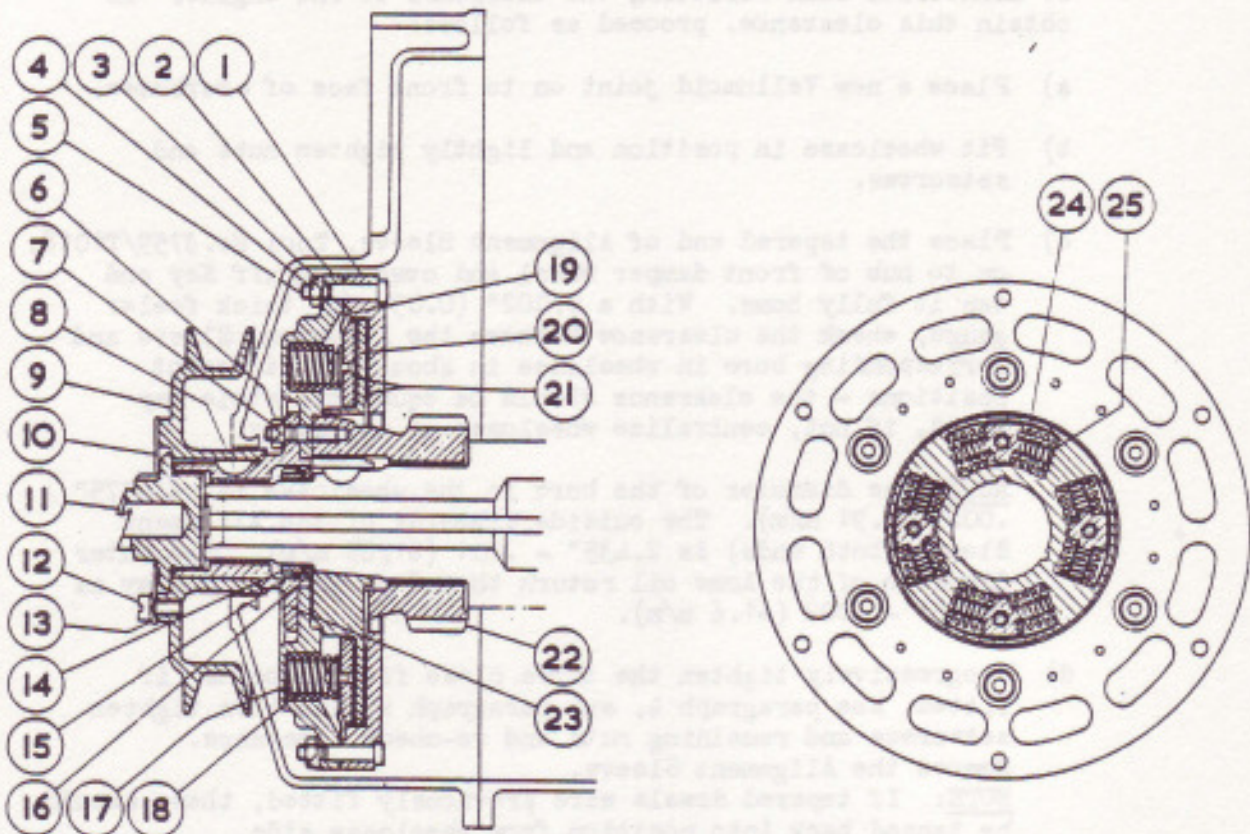
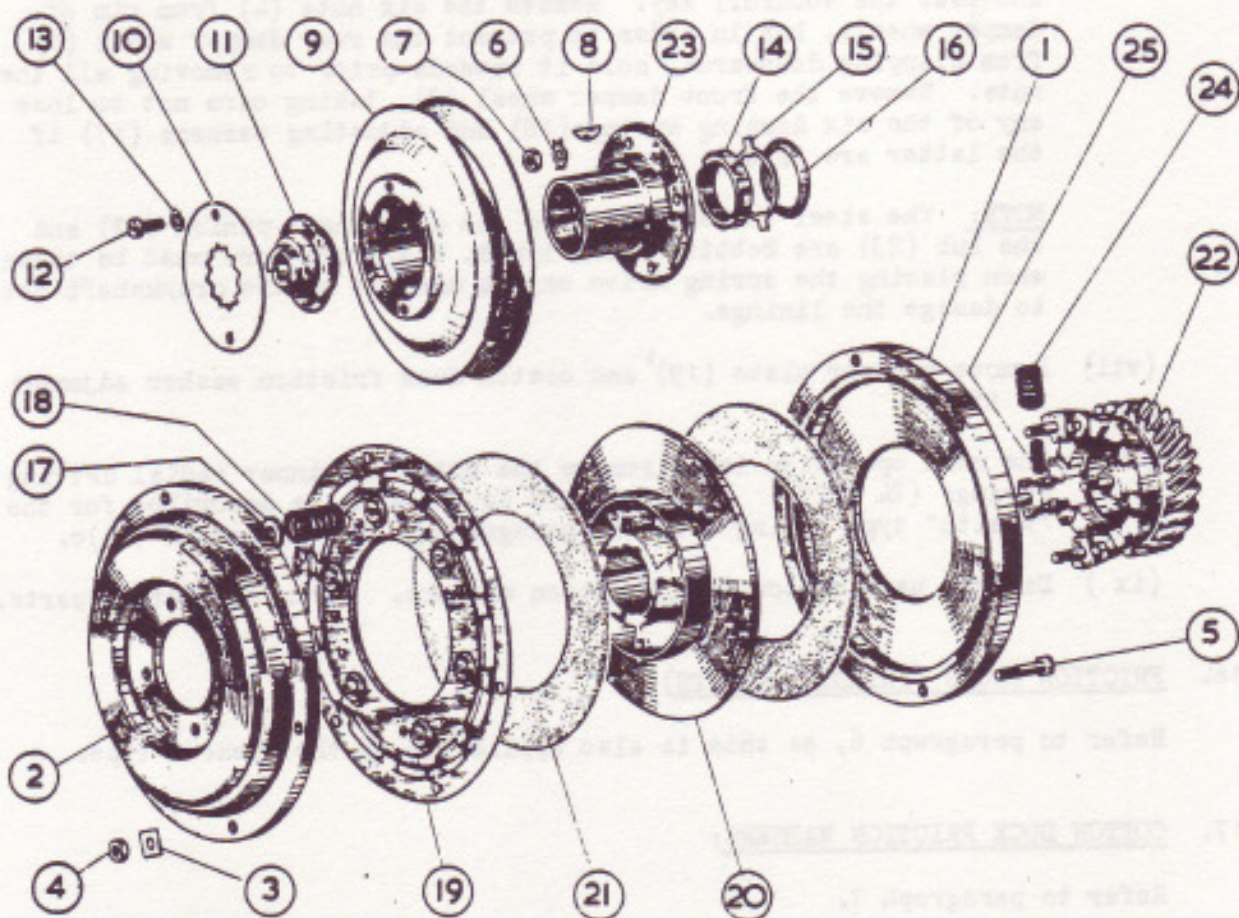

FIG. 28. SECTION - SPRING DRIVE ("BENCH" TYPE).
FIG. 29. ENLARGED VIEW - SPRING DRIVE ("BENCH" TYPE).
For the description, refer to paragraph 1. It will be observed upon reference to Fig. 28, that in order to remove the serrated nut(14) retaining the spring drive to the crankshaft, it is not necessary to first remove the front damper wheel (2) as in the case of the "Wraith" type. The serrated nut is exposed by removing the hub (23) secured by four nuts.
- (ii) Remove star locking plate (10 Figs. 28 & 29) from fan pulley.
- (iii) With box spanner 1649/T3, unscrew starting dog (11) from hub (23) and pull off the fan pulley - if necessary, ease it back with two small levers.
- (v) Remove the four nuts (7 Fig. 28) and withdraw hub.
- (ii) Bend back tabs of lockwasher (15 Fig.28), and with the serrated spanner 3759/T1007, remove nut 14, (R.H. thread) from crankshaft. Remove the plain washer (16).
- (vi) Carefully place the spring drive on the mandril (see "NOTE" below) and over the Woodruff key. Remove the six nuts (4) from rim of damper wheels, but in order to prevent the rear damper wheel (1) from slipping downwards, hold it upwards prior to removing all the nuts. Remove the front damper wheel (2), taking care not to lose any of the six damping springs(18) and adjusting washers (17) if the latter are fitted.
Crankshaft Pinion Assembly (22 Fig.29), Rear Damper Wheel (1), Friction Drum (20), Spring Plate (19), Front Damper Wheel (2) and Hub (23). The recommended slipping load of the damper wheels is 14-lbs. + 1-lb. (6.35 Kgs) applied at a radial distance of $17\frac{1}{2}$ " (44.45 cms). The load is checked with the spring drive assembled, but less the driving springs (24 & 25 Fig. 28).
The procedure of preparing, fitting and ironing the friction washers and the checking of the damper slipping load is basically the same as paragraph 8. Note should be taken of the fact that it will be necessary to temporarily fit the hub (23 Fig.28) securing it with two nuts placed diametrically opposite to one another prior to ironing the washers and the subsequent checking of the slipping load.